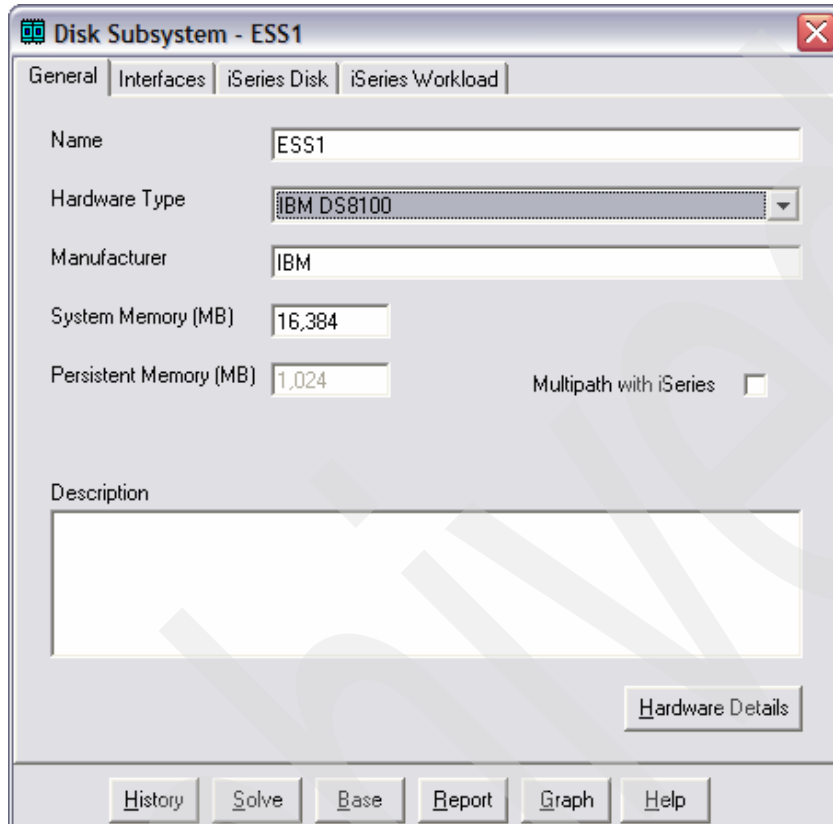

Figure 4-79 Planned hardware type
- a. Select the General tab. For Hardware Type, select the planned model of the DS system. In our example, we select **DS8100**, which is planned for this customer. See Figure 4-79.